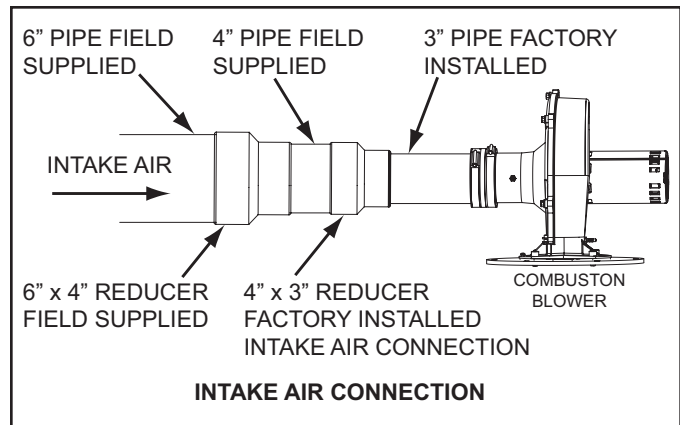

Figure 17
- If installing 6" intake air pipe transition to 4" pipe at the intake air connection on the water heater as shown in Figure 17. The field installed 4" pipe between the intake air connection and the 6" x 4" reducer coupling should be 18 inches (45 cm) or less in length.